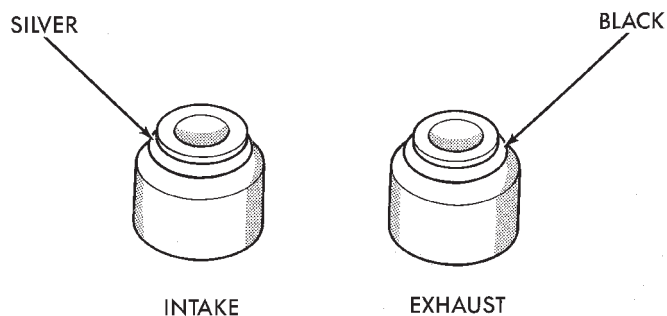
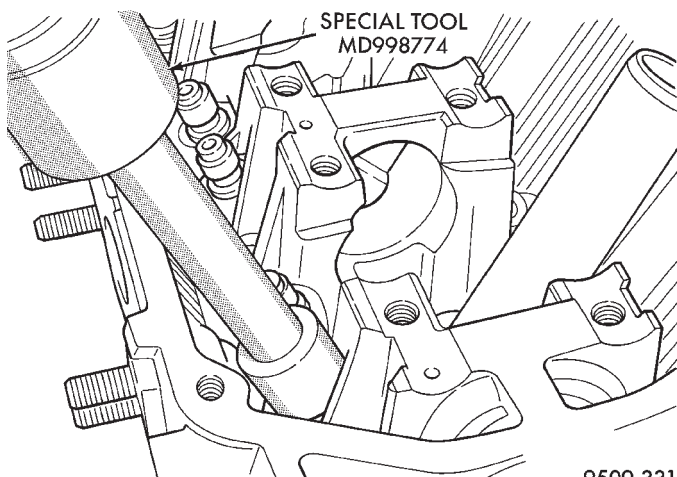

Fig. 46 Valve Stem Seals Identification
Fig. 47 Valve Stem Seals—Installed
(1) Coat valve stems with clean engine oil and insert in cylinder head.
(2) Install valve spring seat.
(3) Install the silver valve seal onto the intake valve guide and the black seal onto the exhaust valve guide (Fig. 46). Using Special Tool MD-998774 install seal by tapping lightly until seal is in place (Fig. 47).